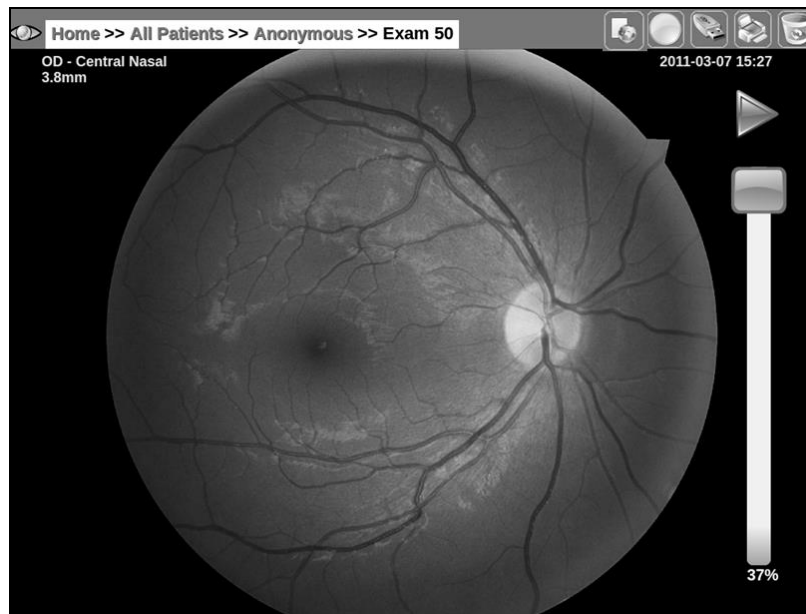

Figure 22 - Full image screen
- Access to individual images (same as Figure 22).